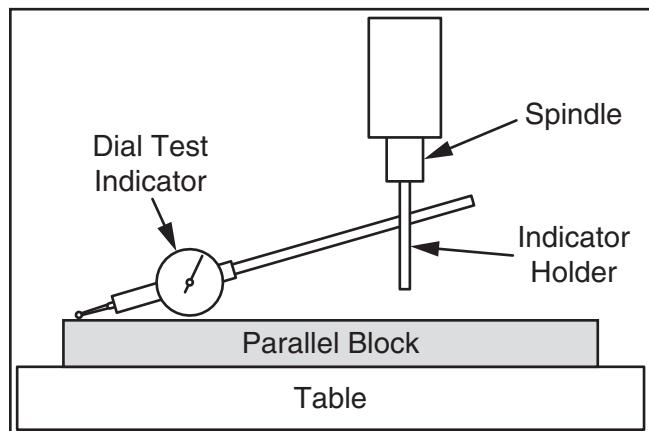

Figure 46. Dial test indicator mounted.
4. Install indicator holder in spindle or on quill, then mount indicator so that point is as parallel to block as possible (see **Figure 46**).
- Rotate spindle by hand so that indicator point rests on one end of parallel block, as illustrated in **Figures 46–47**, then zero the dial.